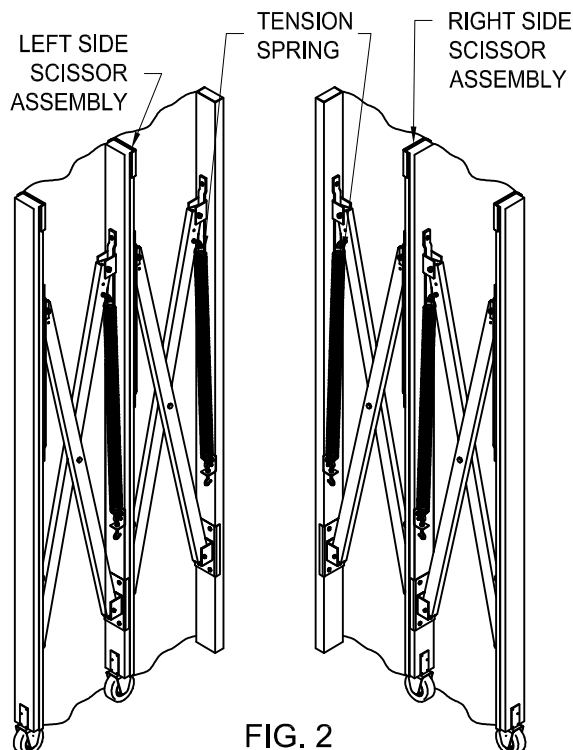

FIG. 2
a. Measure and mark center of dock door opening (Figure 2).
3. Determine left and right vertical frames: The vertical frame should be mounted so that the tension spring assembly is positioned at the top inside edge "Close to the door opening" (fig. 2).